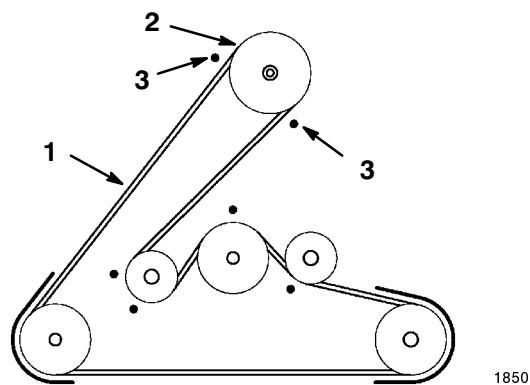

Figure 42
15. Remove the mower belt from the engine pulley (Fig. 42). If you are careful, you can flex the belt guide(s) just far enough away from the pulley to remove the belt. If it is too difficult to remove the belt, loosen the bolts and nuts securing the belt guides. Tighten bolts.